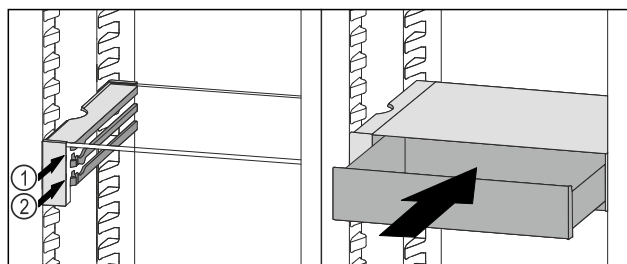

Fig. 66
- Place the VarioSafe drawer behind the stoppers on desired rib *Fig. 66 (1)* or *Fig. 66 (2)*.